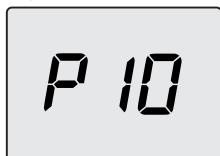

Figure 5.44
- Scroll the various parameters using keys 13 or 14 until the LCD display indicates the letters **P10** and the value of the parameter, indicating entry in "parameter 10" (Figure 5.44).
- By pressing keys 12 and 13 together (Figure 5.42) you will exit without changing the value (return to the parameter list Figure 5.44).